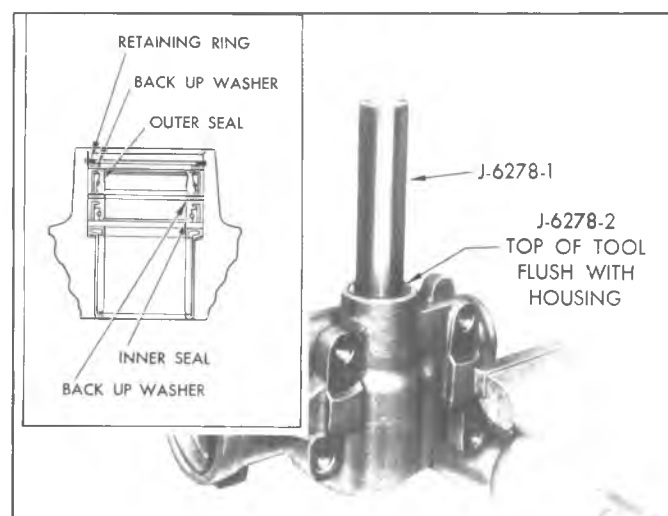

Fig. 52--Installing Pitman Shaft Seals (On Bench)
- b. Drive the seals into the housing until the top of Adapter J-6278-2 is flush with the housing (fig. 52).
- d. Reinsert Tool J-6278 with Adapter J-6278-2 and continue driving the seals until the retaining ring seats in its groove (Refer to Inset, Figure 52), then remove the tool and adapter.